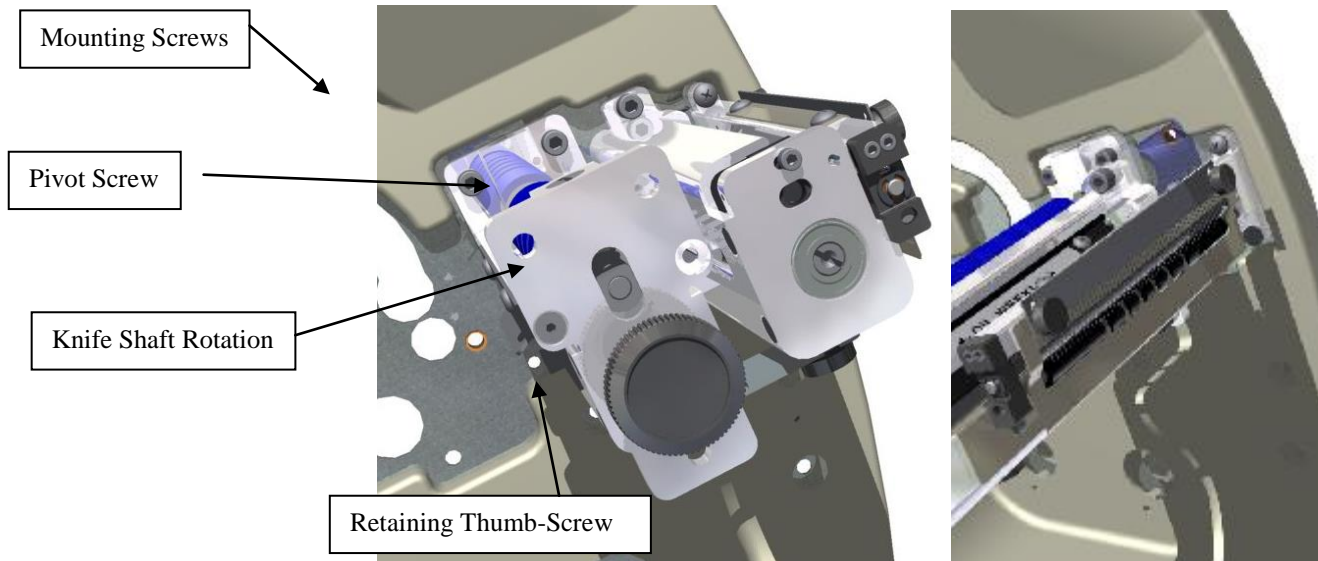

Figure 18a. Outboard End View of Knife
4. Using a 3/16" Allen key or hex "T" handle key, remove the two mount screws that retain the knife to the upright frame (see Fig. 18a).